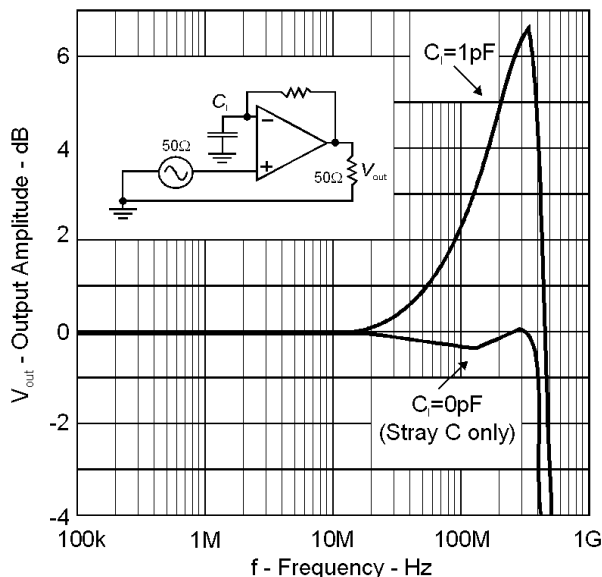

Figure 7. Effect of Capacitance at the Inverting Input
- Do watch the trace length on the inverting input. Capacitance on this input, formed by parasitic capacitance with other layers and traces, will reduce the phase margin (see Figure 7).